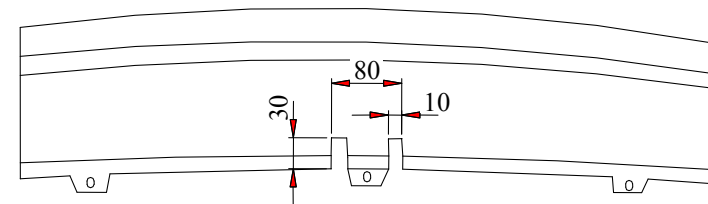

Fig. 2. Bumper cut out
6. Reassemble the bumper after cut his fragments according to figure 2.
7. Fix body of the automat and the socket plate (pos. 3) using bolts M12 from accessories. Place tow-ball according to supplied instruction.